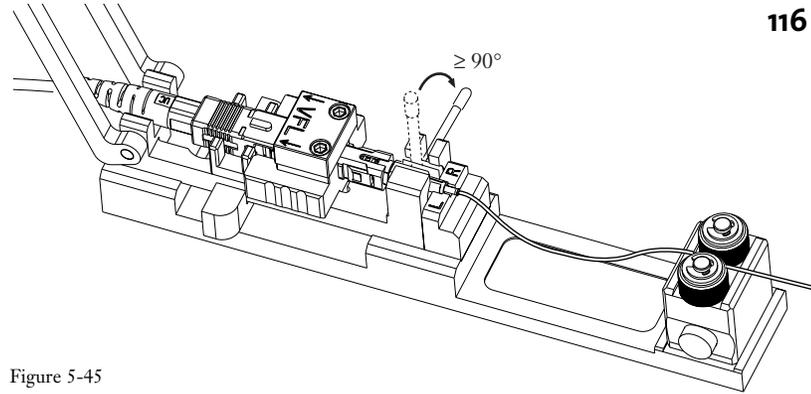

Figure 5-45
**5.8-4** Rotate the wrench down until it stops. It is normal for the wrench to rotate beyond 90° (Figure 5-45).